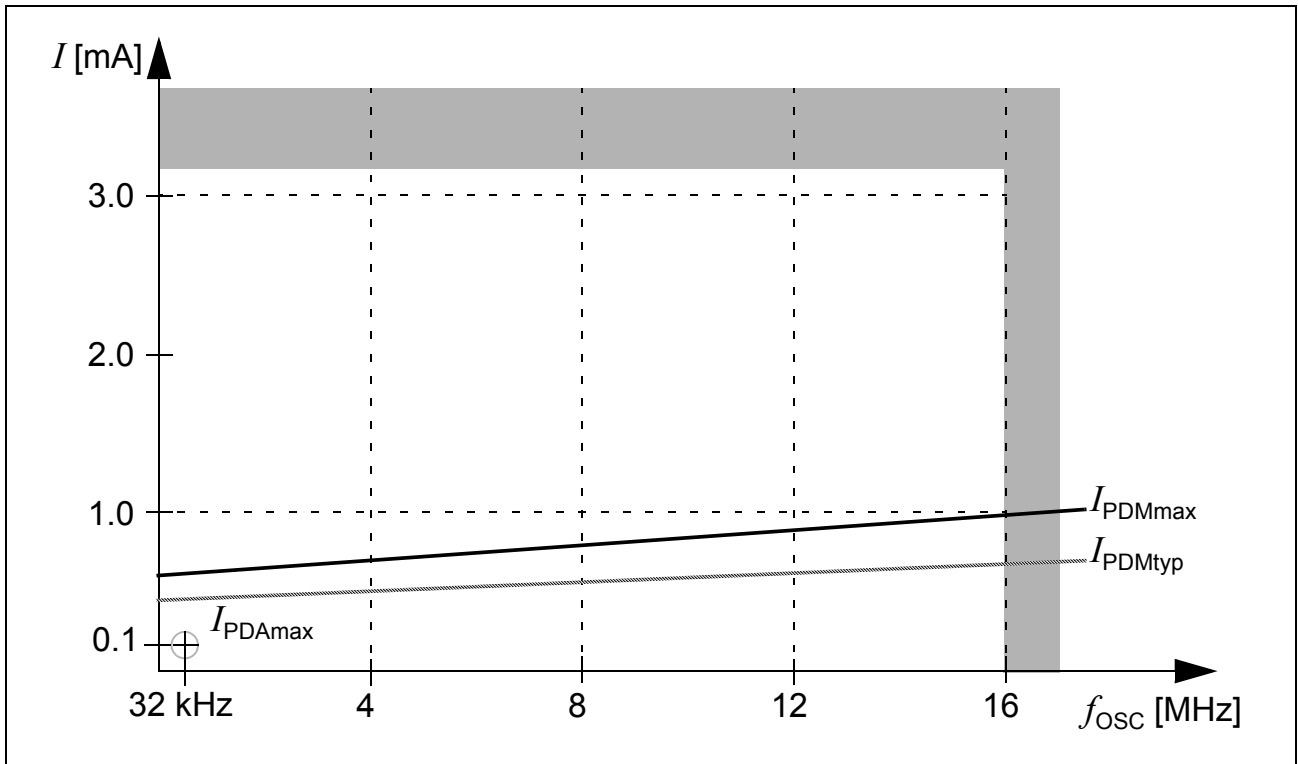

Figure 11 Sleep and Power Down Supply Current due to RTC and Oscillator Running, as a Function of Oscillator Frequency
- 7) This parameter is determined mainly by the current consumed by the oscillator switched to low gain mode (see **Figure 11**). This current, however, is influenced by the external oscillator circuitry (crystal, capacitors). The given values refer to a typical circuitry and may change in case of a not optimized external oscillator circuitry.